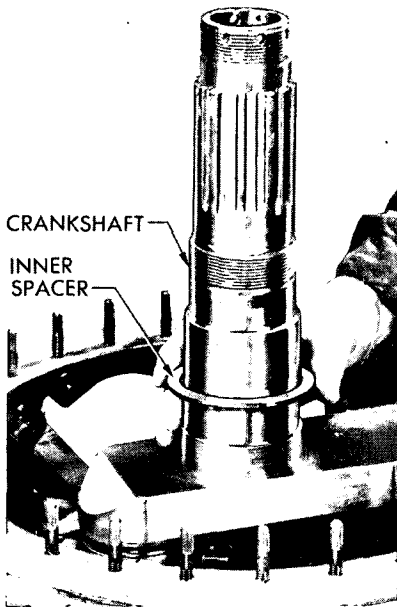

Figure 218 – Installing Front Main Bearing Spacer
h. Install Front Main Bearing. If bearing inner race was removed during disassembly, position bronze inner spacer on crankshaft with radius down (fig. 218). Heat bearing inner race to approximately 250°F. Position inner race over crankshaft with bearing